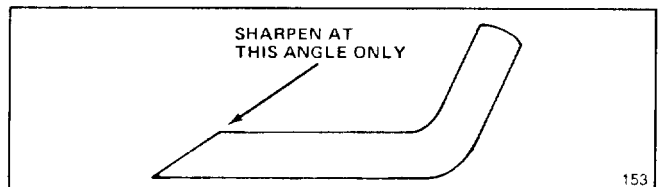

Figure 19
6. **SHARPENING BLADE**—Using a file, sharpen top side of blade (side facing mower housing) and maintain original cutting angle (Fig. 19). The blade will remain balanced if the same amount of material is removed from both cutting edges.